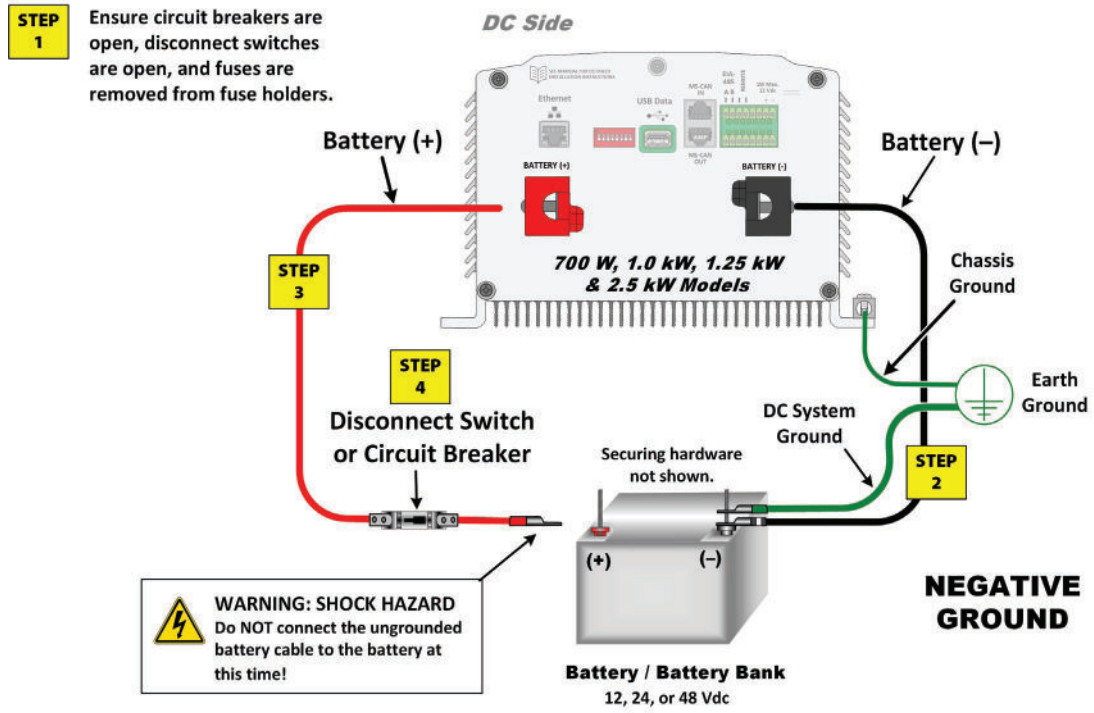

Figure 18: DC Connections on 700 W to 2,500 W Models with Negative Grounding
- **For 700 W, 1,000 W, 1,250 W & 2,500 W Models:** See Figure 18 on page 25